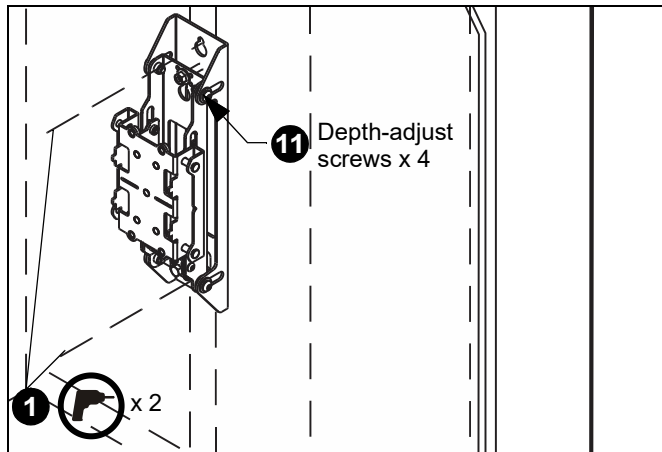

Figure 11
1. Drill one 1/2" x 1" hole at marked location on wall. (See Figure 11)
11. Adjust depth of wall uprights, if necessary, so that the face of the wall uprights are all in the same plane across the width of wall upright installation: (See Figure 11)